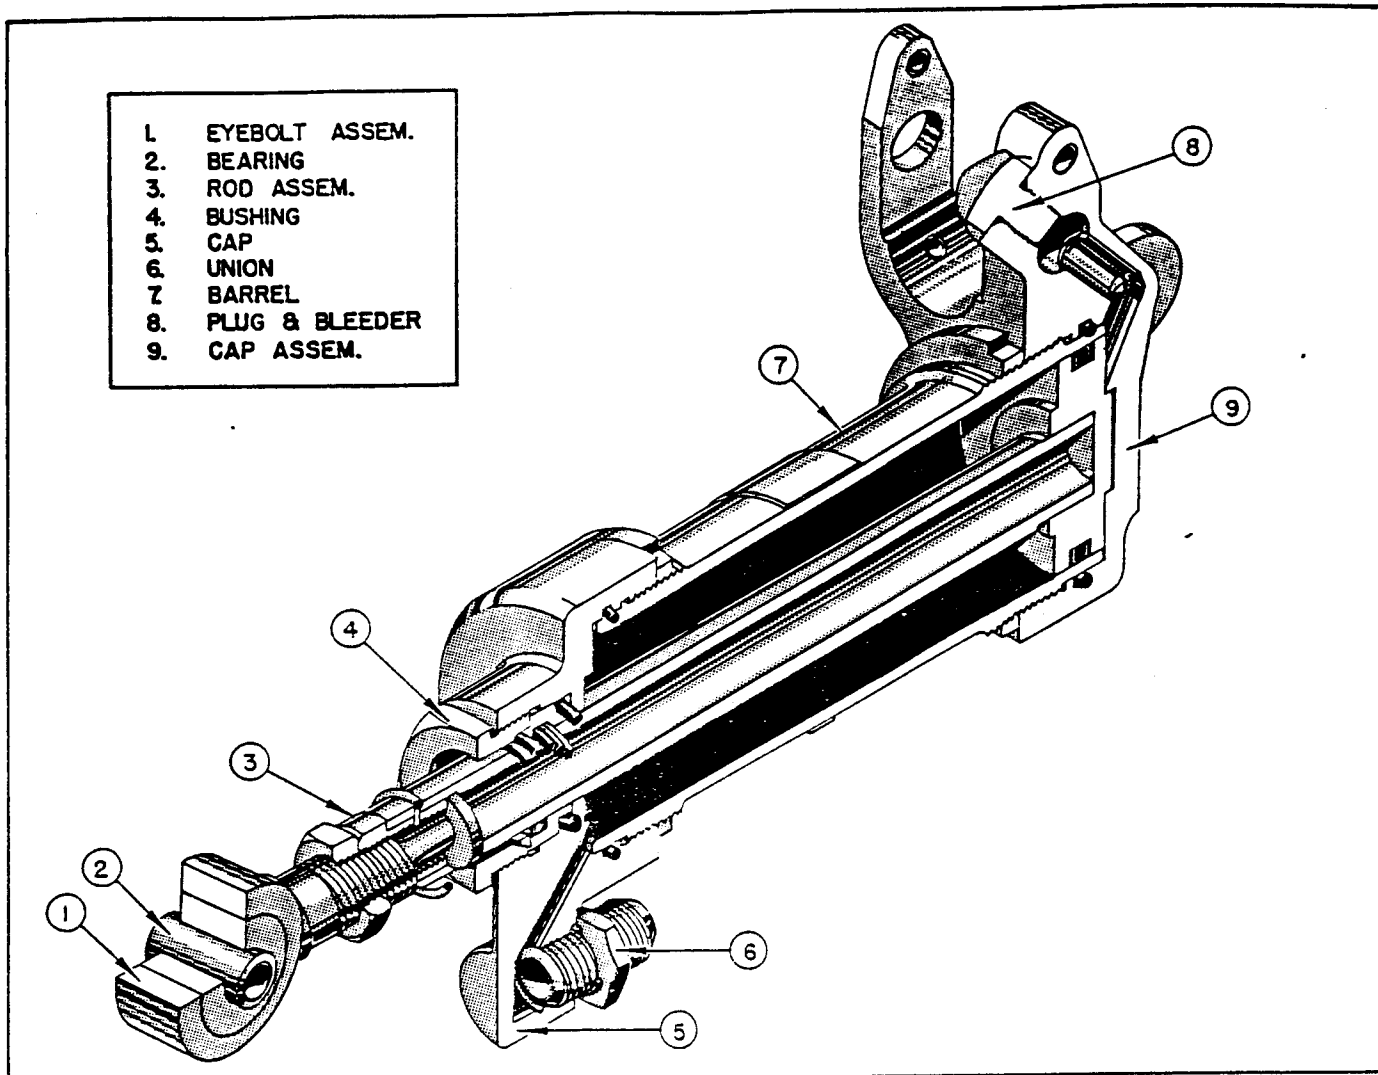

Figure 22. Rudder Actuating Cylinder
(12) RUDDER, ELEVON, AND WING SLOT ACTUATING CYLINDERS.
(a) DESCRIPTION.- Hydraulic actuating cylinders are used to operate the wing slot doors, rudders and elevons. See figures 22, 23, and 24. They are of the conventional cylinder and piston type. The elevon and rudder cylinders function through a servo unit. See paragraph 16 j (13).
(c) DISASSEMBLY. (See figures 22 through 24.)- The disassembly of all the actuating cylinders is similar, though not identical. Refer to cross-sections of the cylinders, figures 22 through 24, to aid in assembly and disassembly.
(d) ASSEMBLY. (See figures 22 through 24.)